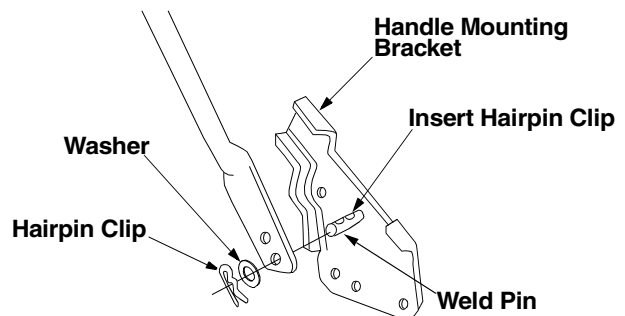

Figure 4
- Make sure washer is placed next to lower handle and insert the hairpin clip into the inner hole on the weld pin. Repeat on other side. See Figure 4.